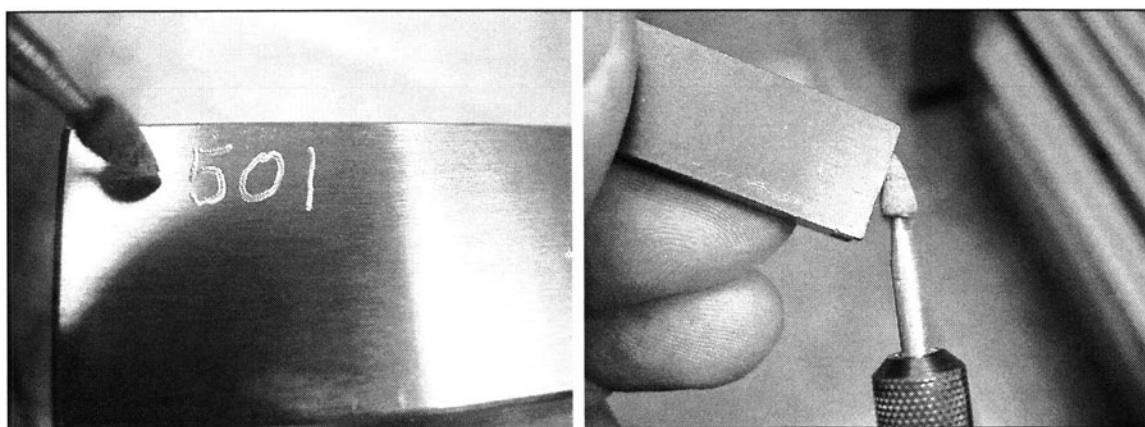

FIGURE 6-19 A mounted stone is used to write on metal. The photo on the right shows the stone being dressed with a Norbide® stone.
27. Use a Dremel® motor with a small mounted stone to mark and write on metal. (See Fig. 6-19)